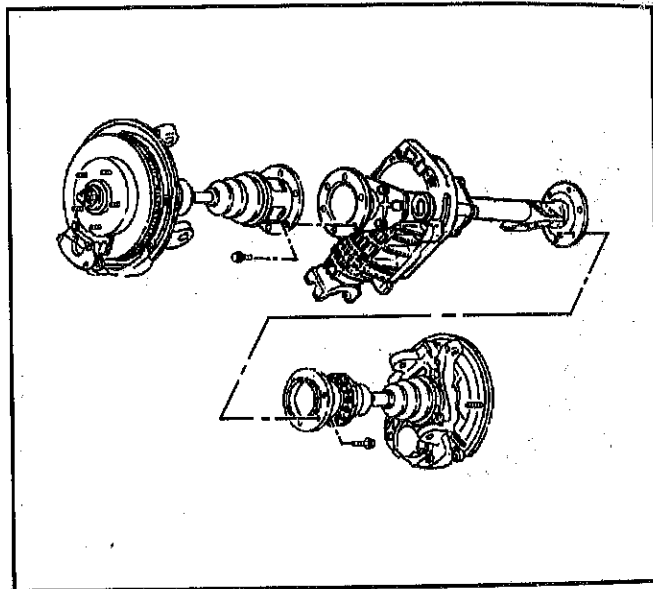

Figure 28—Flange Bolt Removal
- Loosen, but do not remove, the six bolts securing the inboard C/V joint flange to the output shaft companion flange (Figure 28).